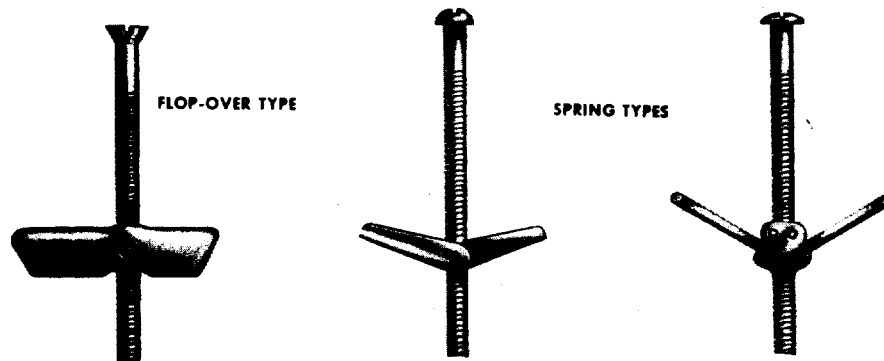

Fig. 1 — Toggle Bolts
1.01 Toggle bolts are of two general types, flop-over and spring (Fig. 1).